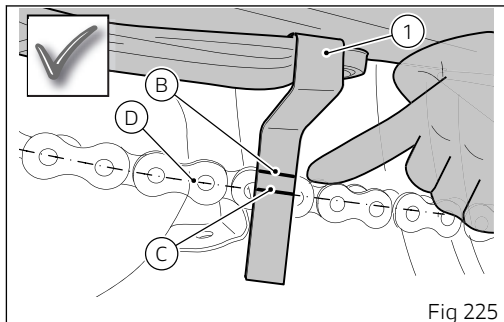

Fig 225
If the axis (D) of the chain pins is in line with the notch (C) or between (B) and (C) of the gauge (1), the chain is correctly tensioned, (see Fig 225).